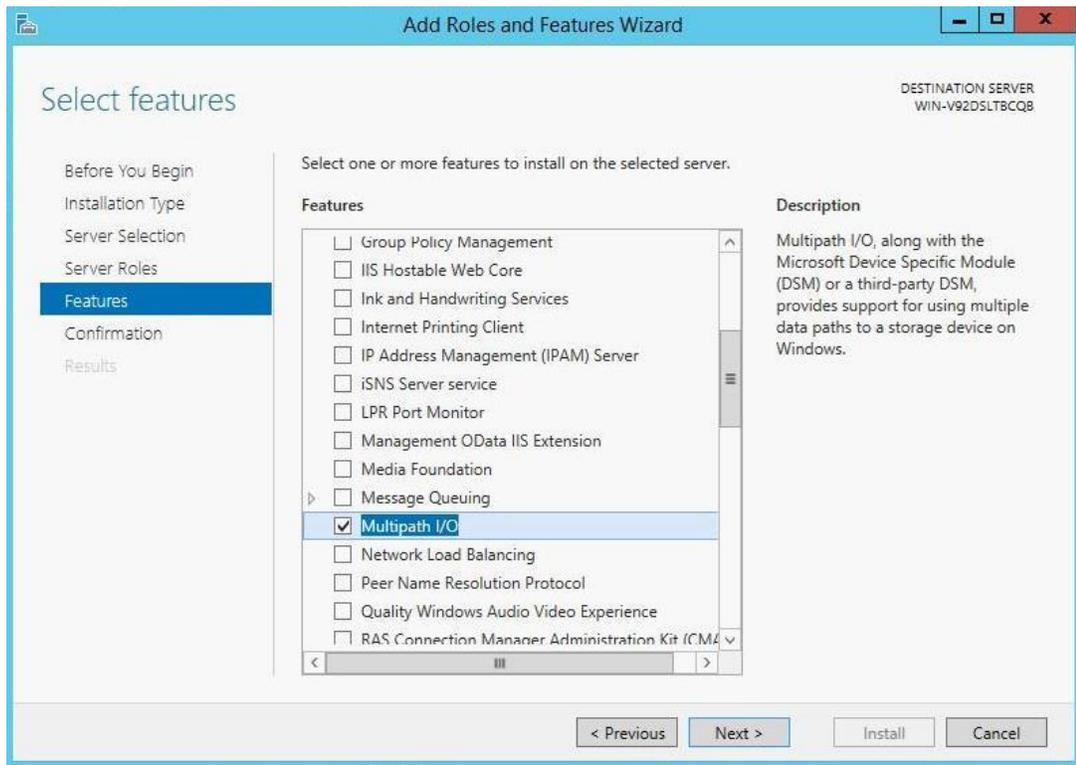

Figure 32 Windows 2012R2 – Add roles and features wizard
5. On the Select features page, scroll down and check the box next to **Multipath I/O** (Figure 32).